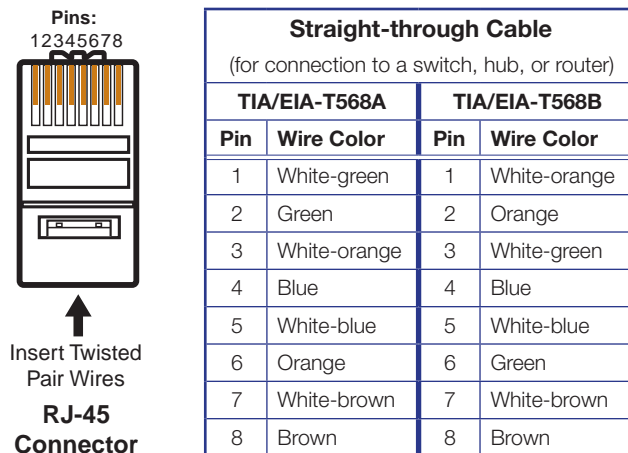

Figure 12. TP Cable Termination
- Terminate cables with shielded connectors to the TIA/EIA-T568B standard (see figure 12).